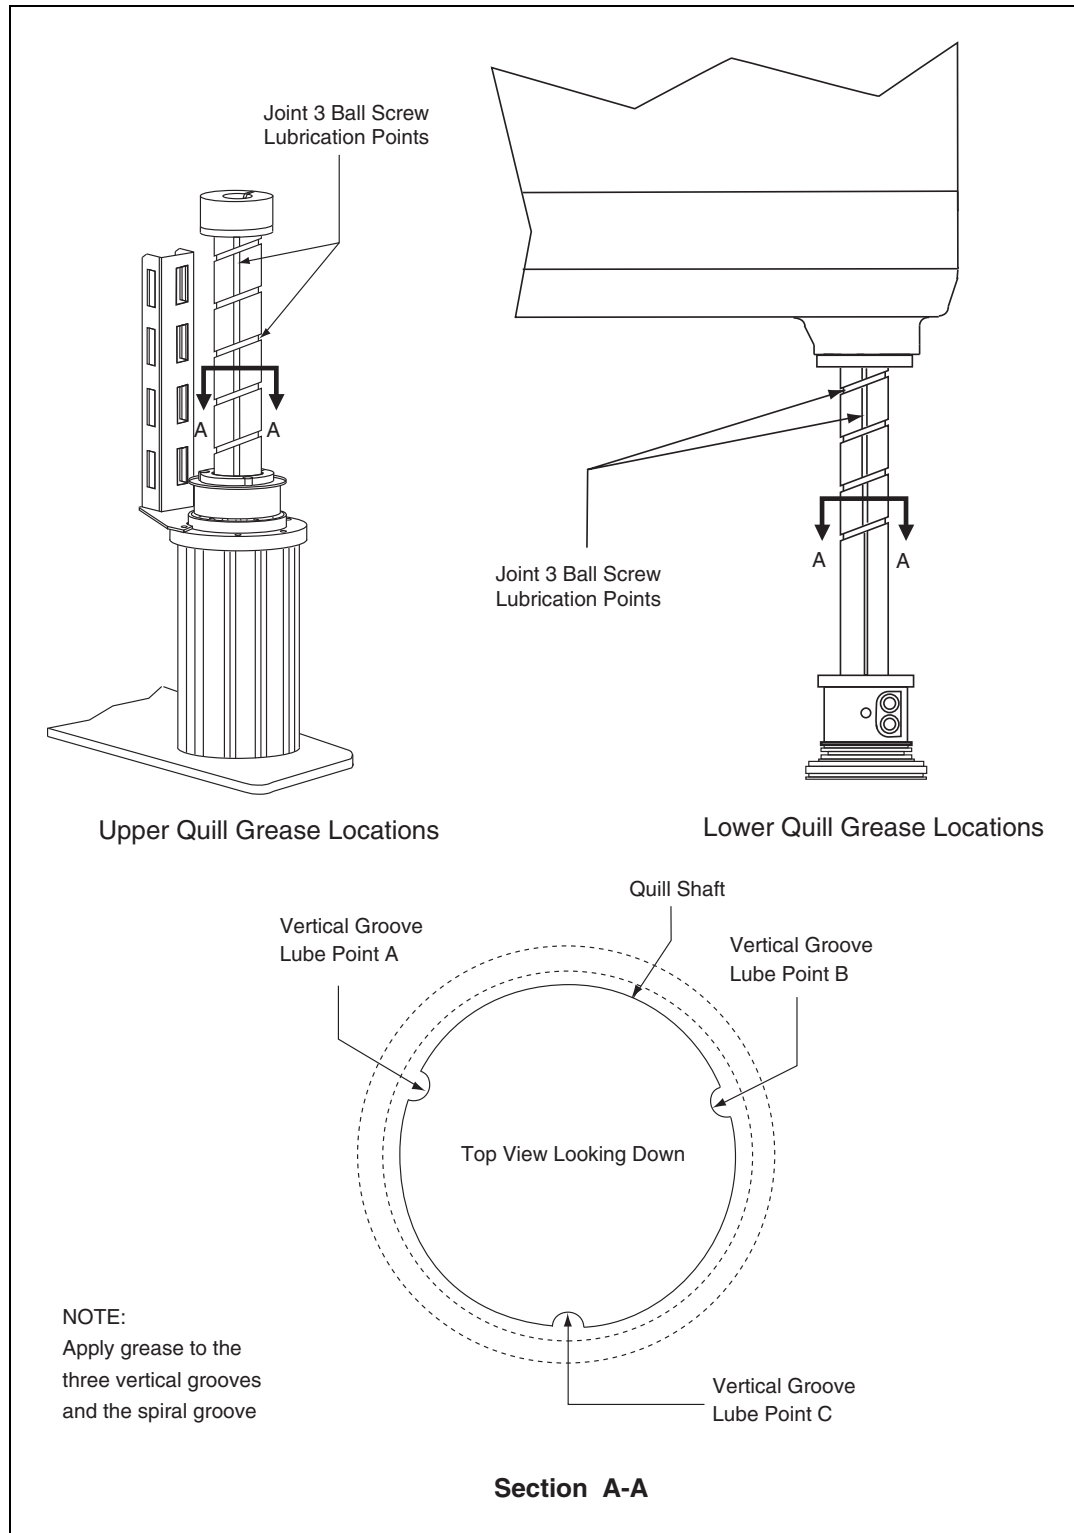

Figure 6-5. Lubrication of Joint 3 Quill
5. Using a syringe, apply a small bead of grease to the Joint 3 ball screw grooves, see Figure 6-5.